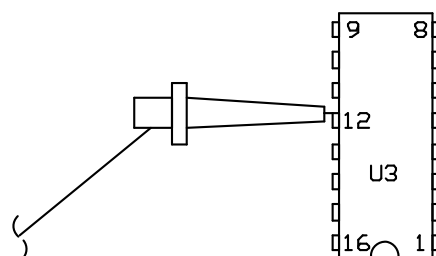

FIGURE 2: U3 CONNECTION
3. Notice the empty 28-pin IC socket at the left side of the PCB, in front of the power supply. There may be 2 or 3 disk caps standing up that will be in your way when you install the adapter. Push them over flat against the PC Board. Place the rear of the adapter under the power supply, line up the pins with the IC socket and push it in place. Now install the mini clip to pin 12 of IC U3. See Figures 2 and 3.